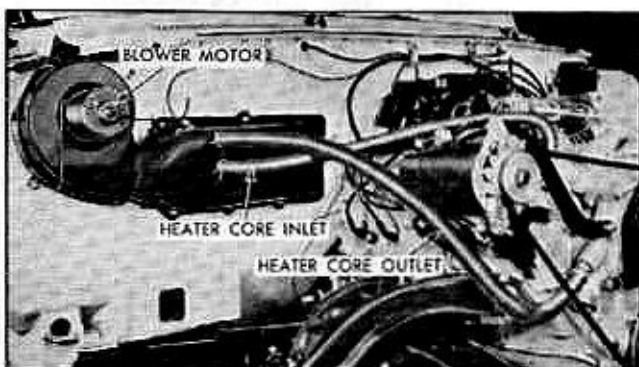

Fig. 2-24 Direct-Aire Heater Air Inlet Duct Assembly on Dash Shroud
5. Disconnect wires at blower motor (Fig. 2-24).